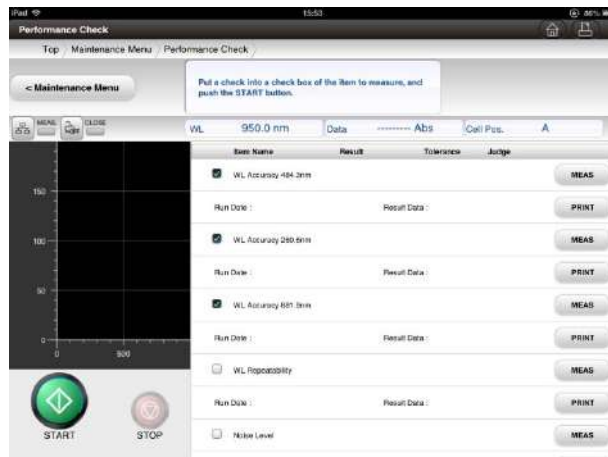

Fig. 6-24 Performance Check Screen
- (1) Display the Performance Check screen (Fig. 6-24). Make sure the sample compartment is empty. Mark the checkbox at the top of each item to be checked. Then,